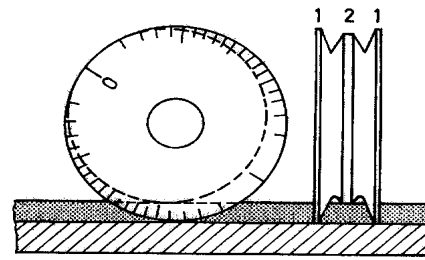

Fig. 1
The disc-shaped measuring instrument (Fig. 1) is rolled over the wet film. During this process two knurled, concentric rims (1) roll across the substrate whilst an eccentrically positioned measuring rib (2) picks up coating material as soon as the distance of the rib from the rims is equivalent to the wet film thickness to be measured.